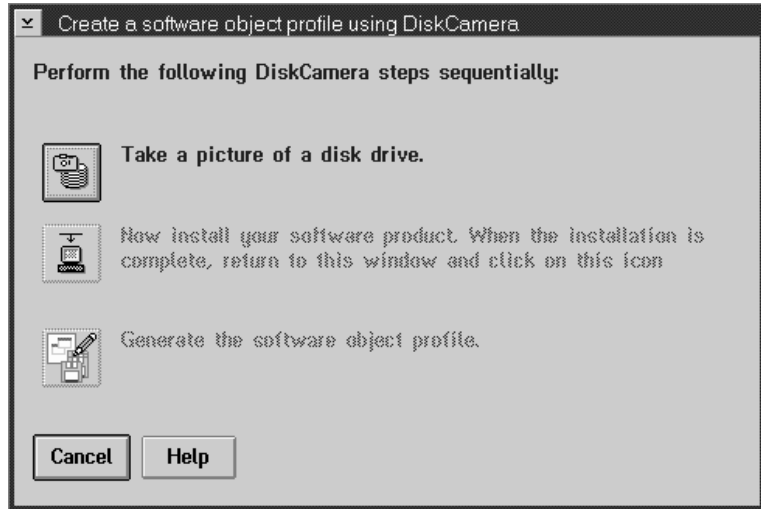

Figure 152. Create a Software Object profile using DiskCamera window
The Create a software object profile using DiskCamera window appears, as shown in Figure 152 on page 229.
- 1 In the Create a software object profile using DiskCamera window (shown in Figure 152 on page 229), click on the second button to notify DiskCamera that the installation has completed.
- 3 In the Create a software object profile using DiskCamera window (shown in Figure 152 on page 229), select the third button to generate the software object profile.